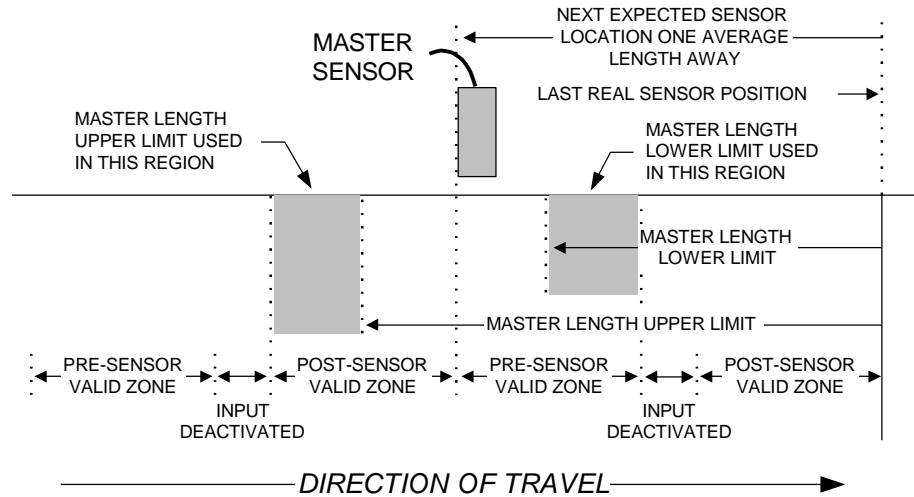

Figure 20 Master Length Upper Limit, Master Length Lower Limit and Master Sensor Valid Zone Operation
3. When the Master cycle is defined by sensor, if the distance traveled since the last *Zero Master Cycle* sensor input exceeds the *Master Length Upper Limit*, the length is considered invalid and is replaced by the *Master Length Upper Limit* value which will be averaged. The *Cycle Limit Reached* (output function 41) is activated until a valid sensor input is received. See Figure 20, *Master Length Lower Limit*, *Master Sensor Valid Zone* and the *CQ* serial command.
3. This parameter defines a length which is used to determine that an “extra” sensor has occurred. If a new sensor input measured from the previous input indicates a length less than the *Master Length Lower Limit*, the sensor input is considered invalid and is replaced by the *Master Length Lower Limit* value which will be averaged. The *Extra Master Sensor* (output function 47) and *Cycle Limit Reached* (output function 41) is activated until a valid sensor input is received. See Figure 20, *Master Sensor Valid Zone* and the *CQ* serial command.
This is useful in applications where registration marks are printed in the same path as other printing (such as advertising, logos, instructions, etc.). The amplifier will ignore all inputs except those which appear within the *Master Sensor Valid Zone*. See Figures 20, 21 and the *CQ* serial command.